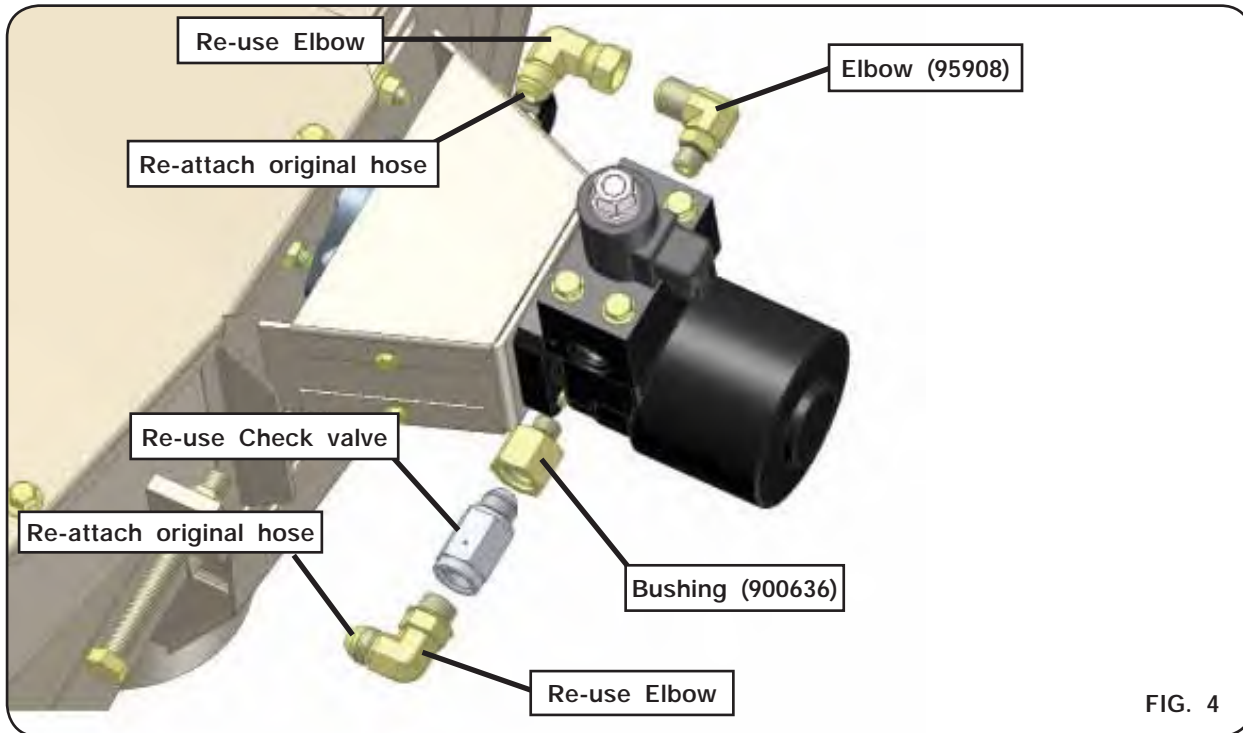

FIG. 4
7. Attach fittings to valve as shown in Fig. 4.
8. Re-attach hoses to fittings as shown in Fig. 4.